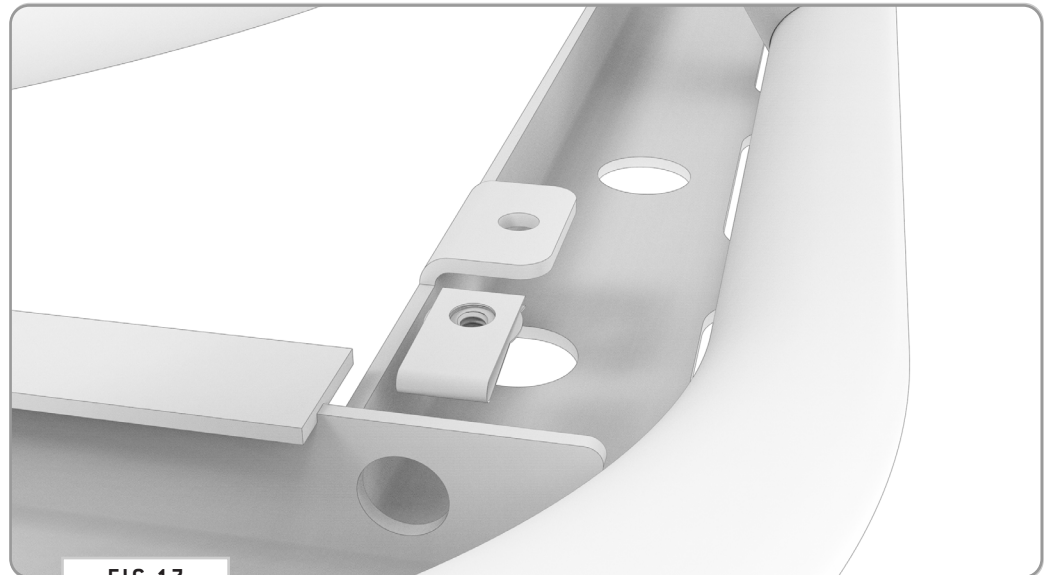

FIG 17
**NOTE** - *The flat side of the **Clip Nut** should be facing upwards (FIG 17)*